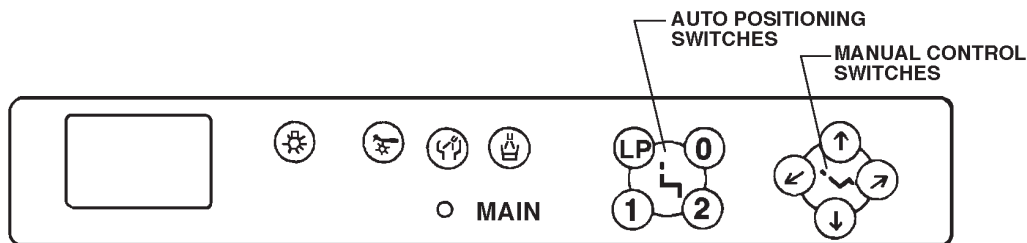
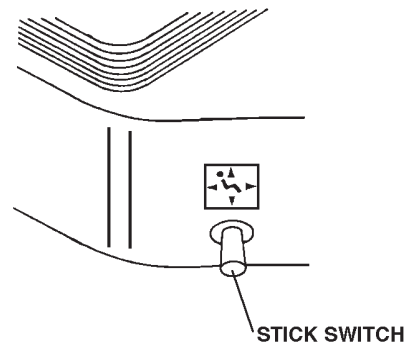
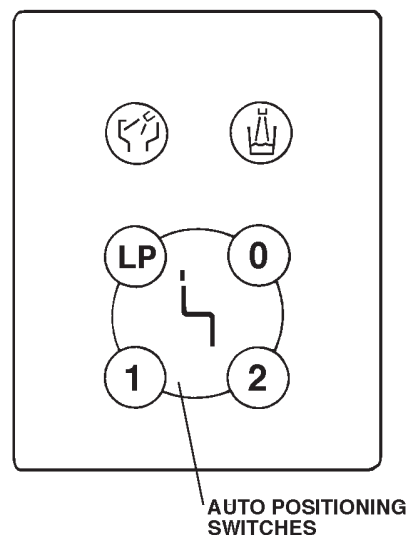

Fig.3-18 Doctor Table Main Control Panel
Fig.3-19 Stick Switch
Fig.3-20 Assistant side Control Panel
(2) Chair Manual Control Switches (**Fig.3-18, Fig.3-19**)
(3) Chair Auto Positioning Switches (**Fig.3-18, Fig.3-20**)